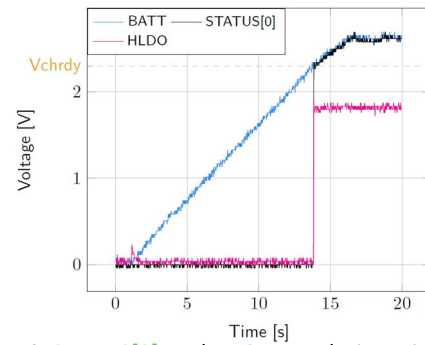

Figure 3: **STATUS[0]** and **HVOUT** evolution with **BATT**
- **BATT**: Voltage rises as the power provided by the source is transferred to the storage element (see Figure 3).
- **HVOUT/LVOUT**: Regulated when voltage on **BATT** first rises above V_{CHRDY} (see Figure 3).
- **STATUS[0]**: Asserted when the LDOs are ready to be enabled (refer to the AEM20940 datasheet “Normal Mode” section) (see Figure 3).